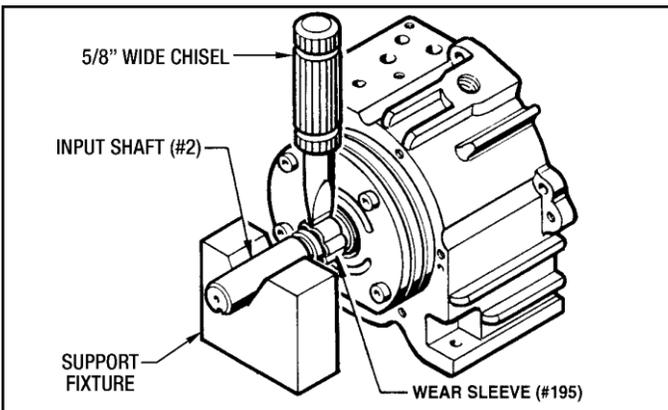

Figure 7.03 - Removing Wear Sleeve (#195)
- Check the Wear Sleeve (#195) on the Input Shaft. If the Wear Sleeve is damaged and needs to be removed use the following procedure. *(See Figure 7.03)*